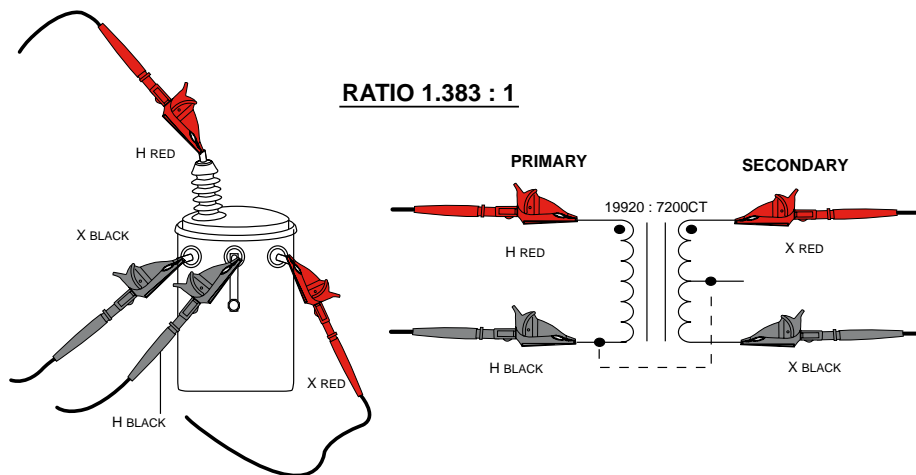

Figure 5-2
1. Connect the Primary (H) and Secondary (X) cables to the appropriate connectors on the DTR® 8510 and the transformer under test (see Fig. 5-2).